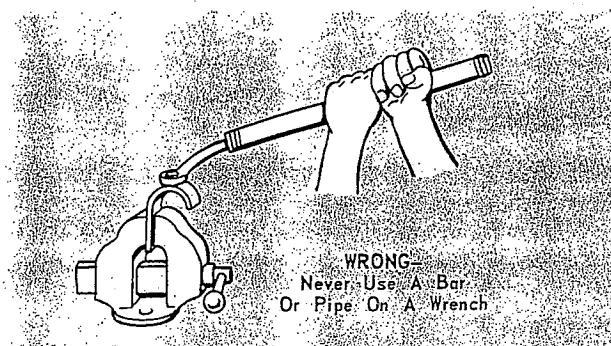

Fig. 21 — Never Use A Bar Or Pipe On A Wrench
*Never use a bar or pipe to increase leverage on a wrench* (Fig. 21). The only exception is when the work is hard to reach and you must use an extension, as with a socket wrench (Fig. 31).